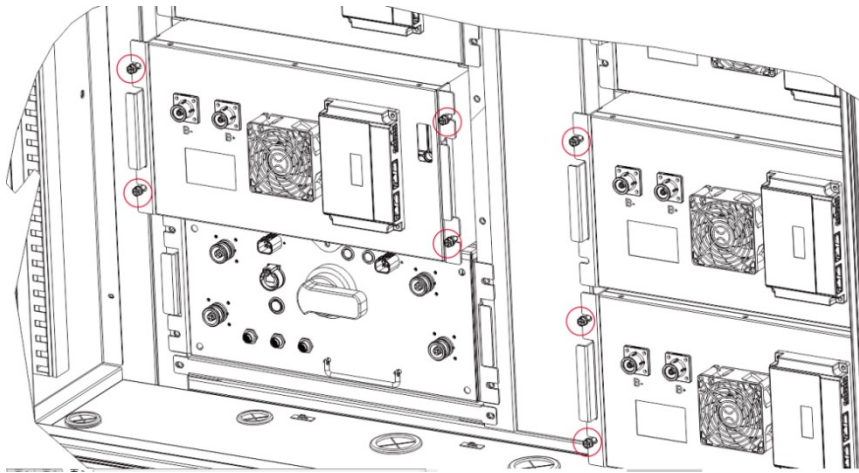

Fig. 4-10 Pack Installation Diagram
Step 5: The battery pack is installed in the energy storage cabinet, install the battery pack in the following sorting table position, take the M6 screws and use a socket wrench to lock them tightly, the installation torque is 5N.m. As following Fig. 4-10: